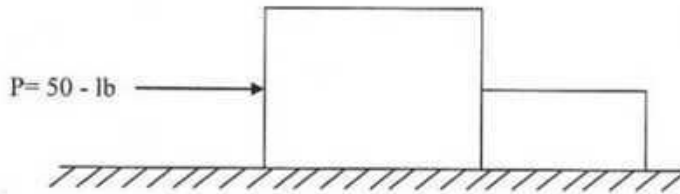

Figure 7
13) Crates A and B, shown in Figure 7, weighs 100 lb and 50 lb, respectively. If they start from rest, determine their speed when  $t = 5s$ . Also, find the force exerted by crate A on crate B during the motion. The coefficient of kinetic friction between the crates and ground is  $f_k = 0.25$ .